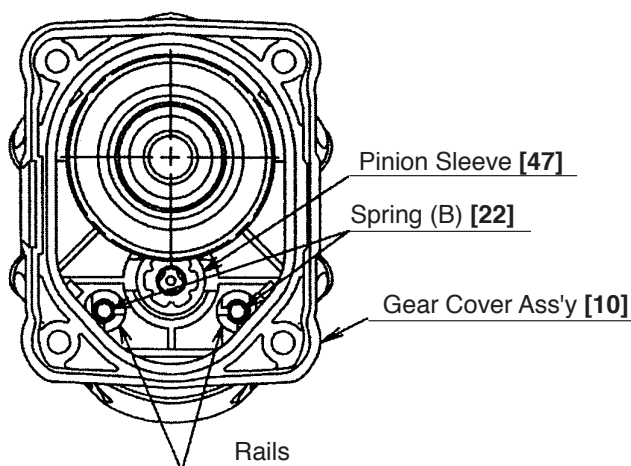

Fig. 14
- Push the Second Hammer **[29]** in the main body with a drill bit or screwdriver to release the Striker **[37]** from O-ring (C) **[34]**.
- Remove Spring (B) **[22]** from the rails in the Gear Cover Ass'y **[10]** as shown in Fig. 14.